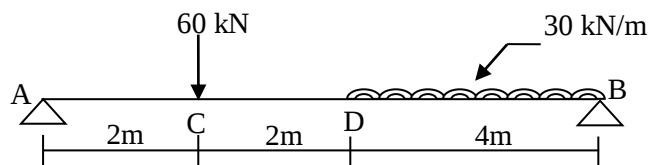

Figure :2, OR Q.3 (a)
- Q.3(a)** For a simply supported beam shown in figure 2. Find slope at support and deflection at point C & D. (Use Macaulay's method).